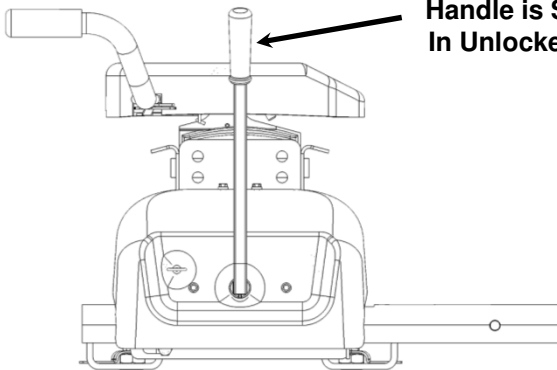

Figure 28b
6. Rotate Handle to Unlocked Position-Straight Up. See Figure 28b.